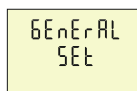
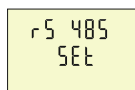
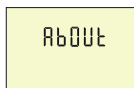

Figure-32
Figure-33
Figure-34
- Figure-31:** It uses for setup. The figure-32 is displayed when you press the UP button.
- Figure-32:** It uses for general settings. The figure-33 is displayed when you press the UP button.
- Figure-33:** It uses for RS-485 settings. The figure-34 is displayed when you press the UP button.
- Figure-34:** It uses for about the device. This section give a information about device serial number and version number. You can use ESC button for exit menu.
Press Menu button and enter password to enter program list. The figure-31(Setup) is displayed when you enter password and press the Menu button. The figure-32(General SET) is displayed when you press the up button. The figure-33(RS485 SET) is displayed when you press the up button. You enter Rs-485 set when you press Menu button. If you enter RS-485 set menu, the figure-43(Pr.9) displayed. This menu have 2 different set value. When you press the up button to see the other RS-485 set values on the display, the next data is displayed. By using up-down buttons select the program. Press Menu to enter required program. By up-down buttons, you can set the program. Press Menu to record your settings, if you press ESC button, you cannot record your settings.
The figure-32(General SET) is displayed when you press the up button.
The figure-33(RS485 SET) is displayed when you press the up button.
The figure-34(About) is displayed when you press the up button.